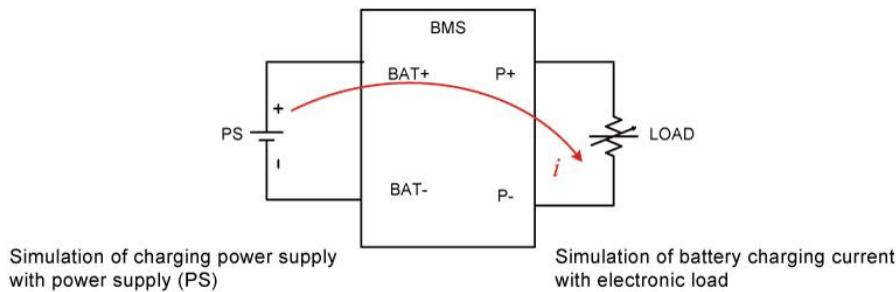

Figure 2.10 Equivalent simulation of BMS discharge
**2.4 Over current discharge protection ( OCDP ) test method: Power supply ( PS ) & LOAD connection and test procedures are shown in Figure 2.10.**